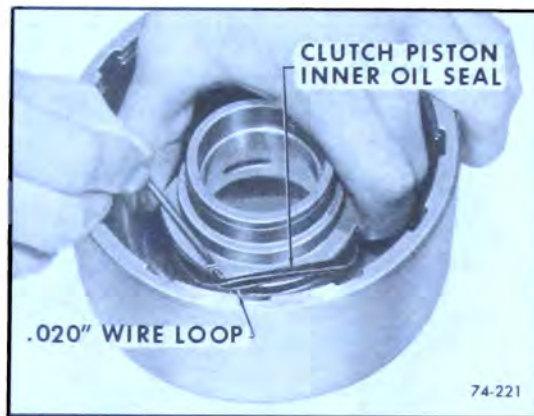

Figure 74-221
11. Examine forward clutch piston inner seal. If nicked, torn or worn, remove seal. See Figure 74-221.